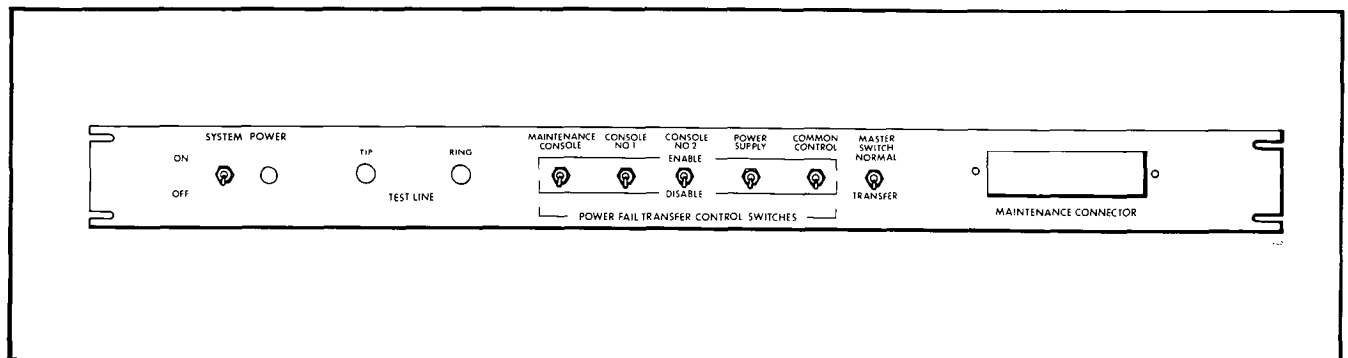

Fig. 4-4 Maintenance Panel
4.19 At the top of the equipment cabinet is the maintenance panel (Fig. 4-4). This panel provides the service personnel with access to the system through the maintenance console connector and test line terminals. Also housed on the maintenance panel are the six Power Fail Transfer Control switches, a system Power ON/OFF switch and a Power ON LED.